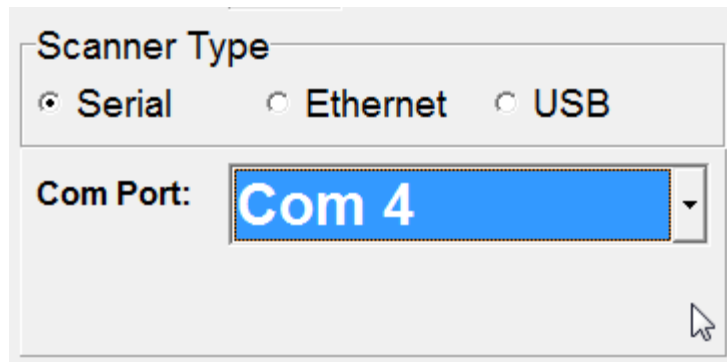

Figure 3 – Scanner Setup
- Select each scanner in the list and make sure it is set to Serial. Assign the com port from step 10. (Figure 3)